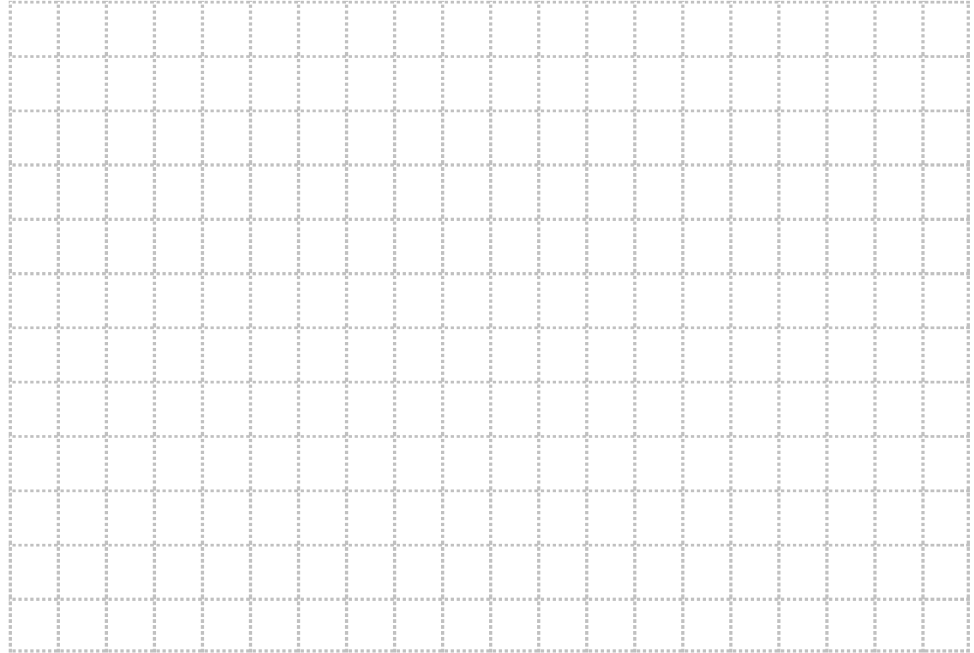

Figure 1-7. Head versus flow rate.
- 21. Plot the head versus flow rate curves in Figure 1-7.